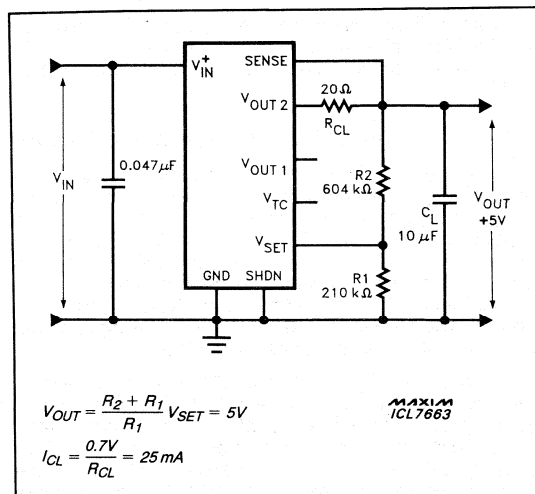

Figure 3. Maxim's Application of ICL7663 (Positive Regulator, Current Limit).
**Note 4:** This output has a positive temperature coefficient. Using it in combination with the inverting input of the regulator at  $V_{SET}$ , a negative coefficient results in the output voltage. See Figure 3 for details. Pin will not source current.
Figure 3 shows a typical positive voltage regulator using the ICL7663. The input voltage,  $V_{\text{IN}}$  can range from a maximum of  $16\text{V}$  to a minimum of the output voltage plus the input-output differential. The output voltage is set by the resistors  $R_2$  and  $R_1$ , and the output current limit is set by  $R_{\text{CL}}$ . The  $0.047\mu\text{F}$  capacitor on the input limits the rate-of-rise during power-up and also removes some of the high frequency noise on the input voltage. In Figure 3, the logic shutdown is not used and is therefore grounded.  $V_{\text{OUT2}}$  should be connected directly to SENSE if current limiting is not used.
The Maxim ICL7663A  $V_{SET}$  voltage is guaranteed to be  $1.29V \pm 15mV$ , eliminating the need for trim pots in most cases. Specifically, using the Maxim ICL7663A and the resistor values shown in Figure 3, the initial voltage will be within  $\pm 2.7\%$  of 5V, assuming  $\pm 1\%$  tolerance resistors. The output voltage will remain within  $5V \pm 5\%$ , over  $0-70^\circ C$ . This tolerance includes the effect of ICL7663A  $V_{SET}$  error, the  $\pm 1\%$  initial tolerance on both resistors, and the resistor ratio temperature coefficient of nearly  $200 \text{ ppm}/^\circ C$ . Since the resistor ratio temperature coefficient is generally much lower than the absolute temperature coefficient,  $100$  or  $200 \text{ ppm}$  resistors can be used, even over the full temperature range while still allowing the output to stay within  $4.75V-5.25V$ .
The circuit in Figure 3 will limit the output current to approximately  $35mA$ . Current limiting will start, when the output current exceeds  $35mA$  and the voltage drop across the  $20\Omega$   $R_{CL}$  is  $500mV$ . For other current limits the value of  $R_{CL}$  can be calculated from the formula: